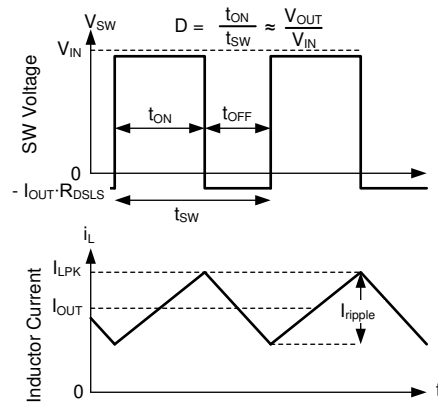

图 8-15. SW Voltage and Inductor Current Waveforms in Continuous Conduction Mode (CCM)
The following operating description of the LMR436x0 refers to 节 8.2 and to the waveforms in 图 8-15. In CCM, the LMR436x0 supplies a regulated output voltage by turning on the internal high-side (HS) and low-side (LS) switches with varying duty cycle (D). During the HS switch on time, the SW pin voltage,  $V_{SW}$ , swings up to approximately  $V_{IN}$ , and the inductor current,  $i_L$ , increases with a linear slope. The HS switch is turned off by the control logic. During the HS switch off time,  $t_{OFF}$ , the LS switch is turned on. Inductor current discharges through the LS switch, which forces the  $V_{SW}$  to swing below ground by the voltage drop across the LS switch. The converter loop adjusts the duty cycle to maintain a constant output voltage. D is defined by the on time of the HS switch over the switching period: